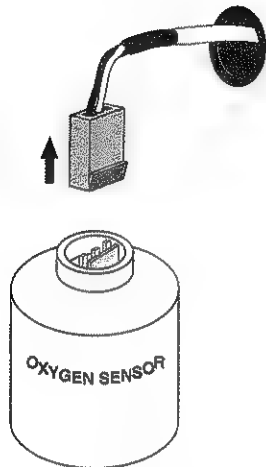

FIGURE 27:
2. Gently pull the electrical connector up and off the oxygen sensor. (see FIGURE 27)